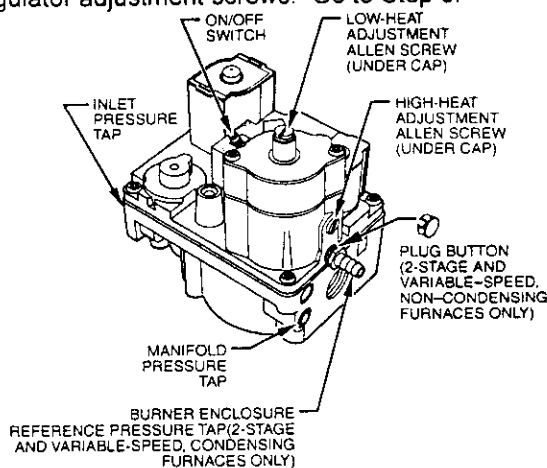

Fig. 5B—Two-Stage Gas Valve
2. Remove caps that conceal adjustment screws for high- and low-heat stage gas-valve regulators. (See Fig. 5B)
- a. Remove caps that conceal adjustment screws for gas-valve regulators. (See Fig. 5B)